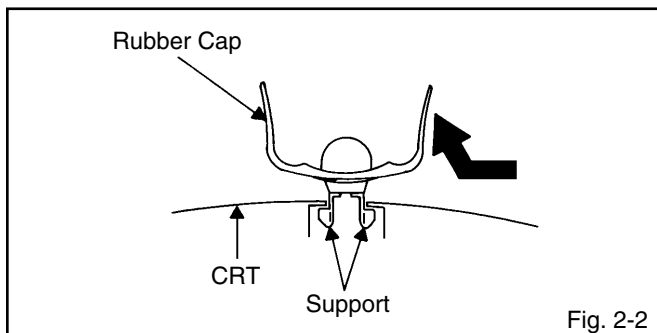

Fig. 2-2
2. Flip up the sides of the Rubber Cap in the direction of the arrow and remove one side of the support. **(Refer to Fig. 2-2.)**